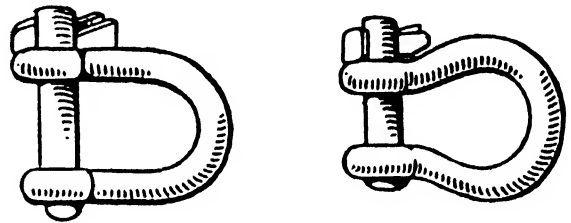

FIG. 33.
**The Shackle.**—The shackle or D link—is a common tool for erectors. It consists of a U-shaped piece of iron or steel, and has eyes forged at the two ends through which, as a rule, an ordinary bolt is threaded. Fig. 33 shows two popular designs in shackles.